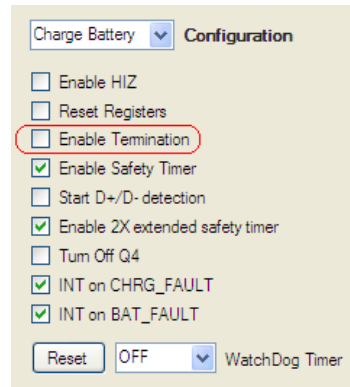

Figure 4. Termination Selection.
- Deselect "Enable Termination" (See Figure 4)